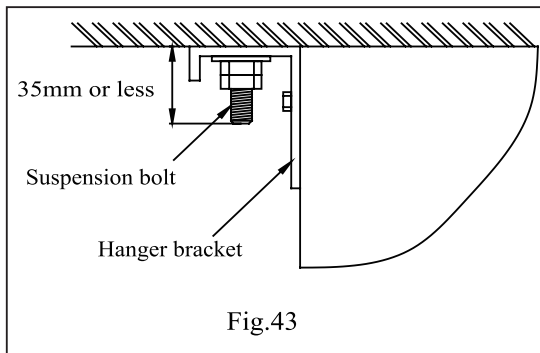

Fig.43
④ Set the suspension bolt. (Use M10 size suspension bolts)
⑤ Adjust the distance between the unit and the ceiling slab beforehand (See Fig.43). Fix the hanger bracket to the suspension bolt.